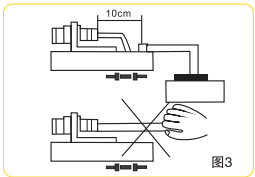

图3
- Lead protection: Please fasten the lead which is located 10cm far away the sensor by a clip in order to avoid the damage of sensor resulted from the lead affected by an external force. (Fig. 3)